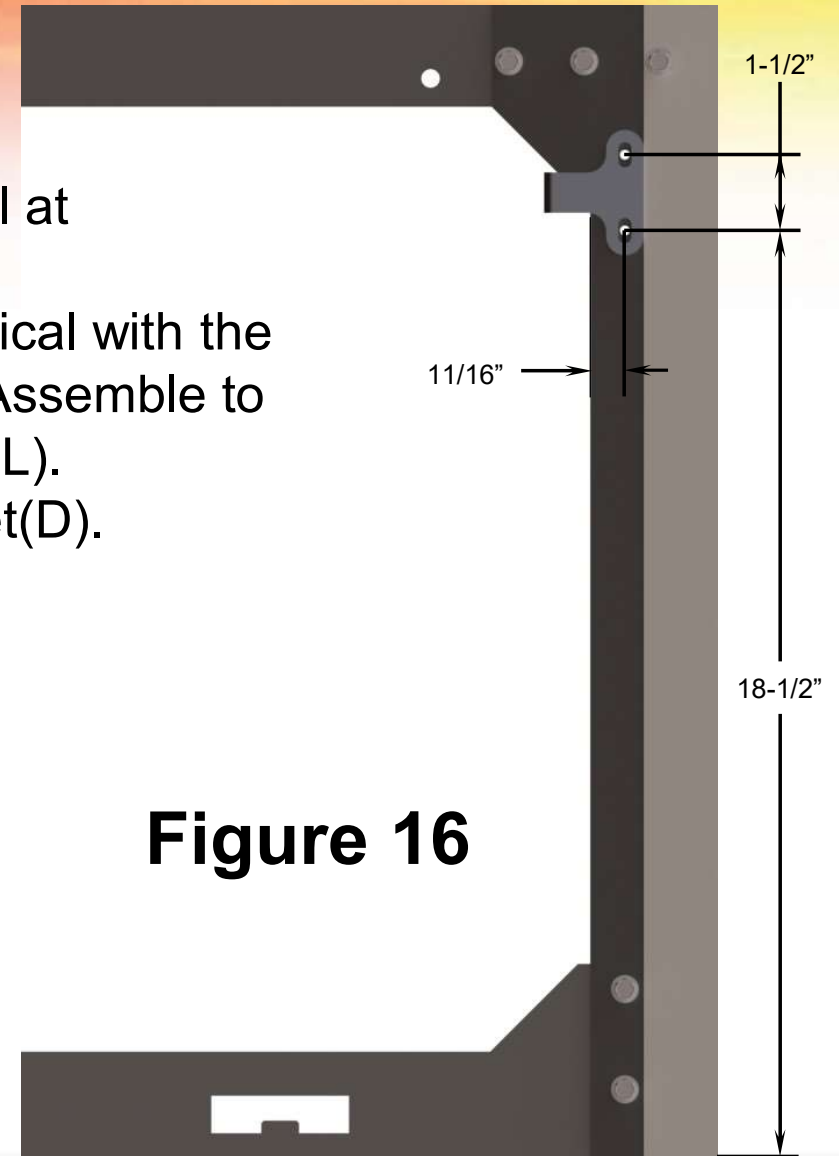

Figure 16
18. Drill two holes $\text{Ø}.214/.228$ in the frame vertical at locations shown in Fig 16.